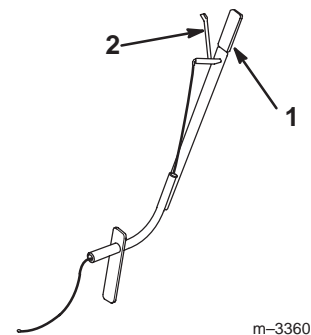

Figure 16
The blade can be angled side to side, in five positions. The direction is controlled by the control handle (Fig. 16).
2. Squeeze the release lever toward the handle (Fig. 16).